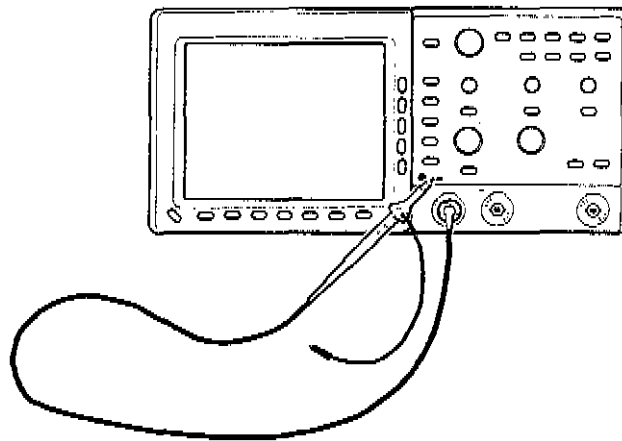

Figure 6-3: Hookup for Functional Test
1. Install the probe on **CH 1**. Connect the probe tip to **PROBE COMP** on the front panel; leave the probe ground unconnected. (See Figure 6-3.)